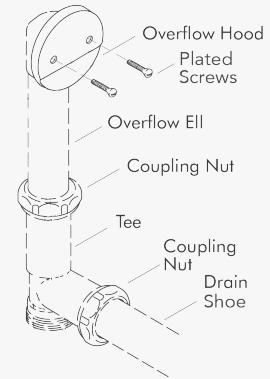

FIG. 5
14. Install overflow plate onto overflow **(502) (FIG. 5)**